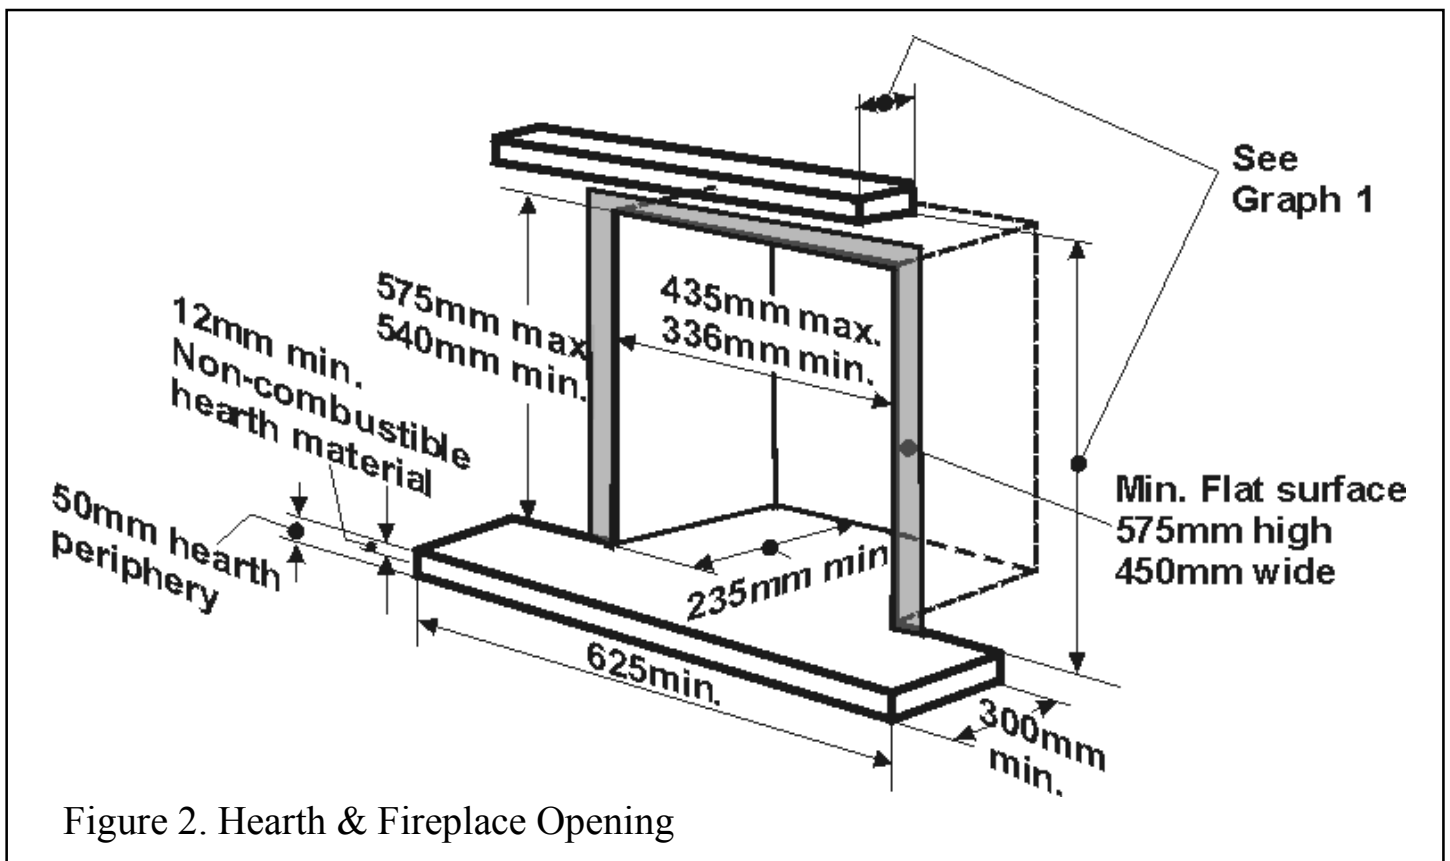
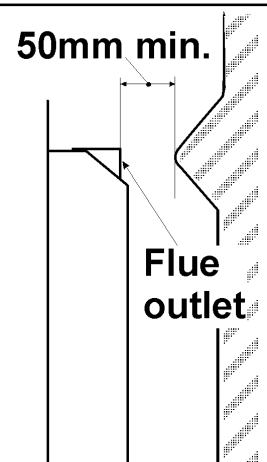

Figure 2. Hearth & Fireplace Opening
Figure 3. Flue outlet clearance
5.9.1 To a fireplace complying with BS1251 complete with surround and hearth as shown in figure 2. Removal of the fireback and sufficient material behind the fireback may be required to give the necessary debris catchment space. Alternatively, a spacer or surround may be used to provide the required depth. The free distance from the appliance flue outlet to a fireback knee or other projection in the fireplace must be at least 50mm (See figure 3).
**5.16** The appliance must be mounted behind a non-combustible hearth in accordance with figure 2. (N.B. conglomerate marble hearths are considered as non-combustible). The hearth material must be at least 12mm thick. The periphery of the hearth (or fender) should be at least 50mm above floor level to discourage the placing of carpets or rugs over it. The appliance must not stand on combustible materials or carpets.